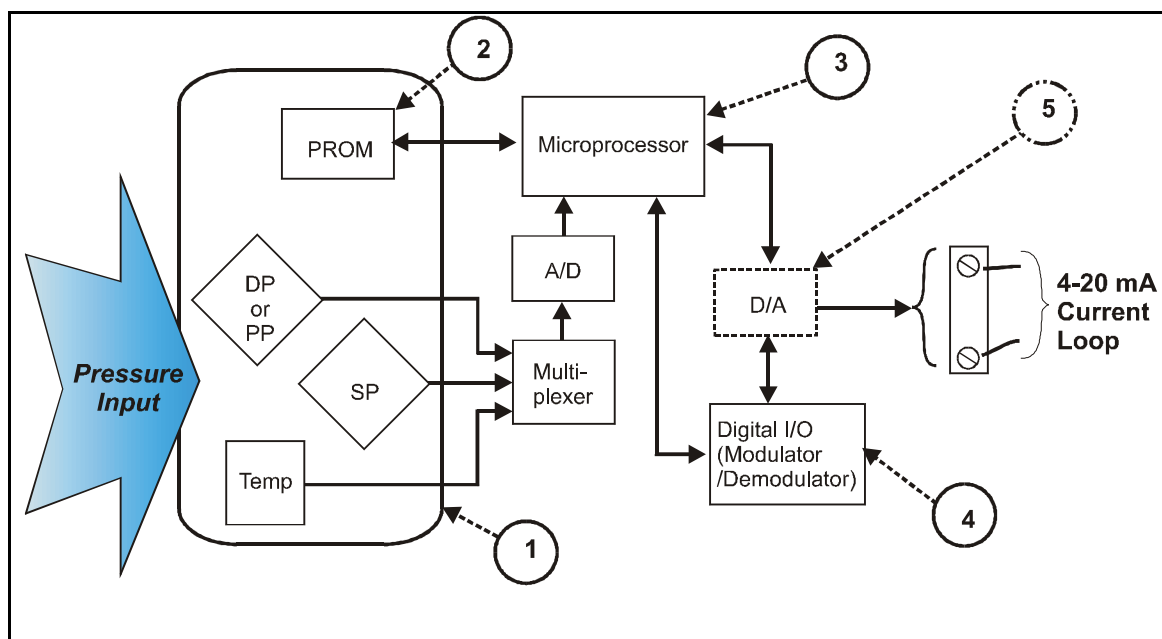

Figure 2-4 Honeywell (HART) Transmitter Diagram
As the diagram in Figure 2-4 shows, the Honeywell HART Transmitter is virtually identical to non-HART transmitters, except that the HART version includes a Digital I/O Modulator/Demodulator block (key number (4) instead of the Honeywell DE communications block.